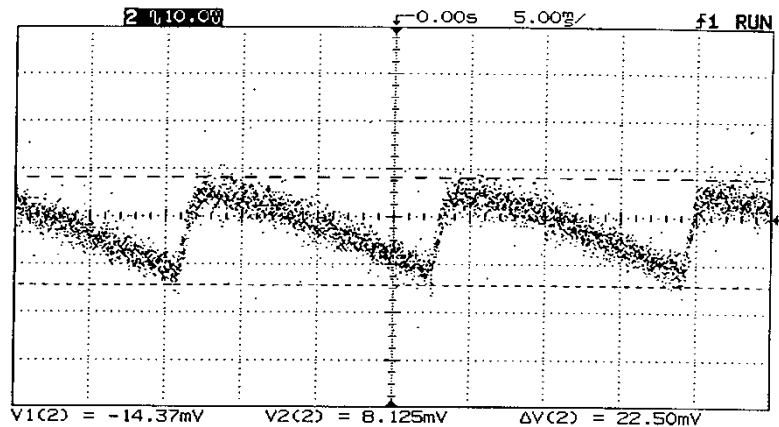

Fig. 8. AC Ripple Component
2. The peak-to-peak ripple voltage is the amount of variation from a constant DC value that is present in the load voltage. Ideally, in a good power supply this voltage should be zero. Measure the peak-to-peak ripple voltage of the circuit of Fig. 5. To accurately execute this procedure, bear in mind that the ripple voltage can be considered to be an AC signal. Therefore measure the ripple component using an AC coupling. Since the ripple component is small, you may need to adjust the volts/div on the oscilloscope (i.e. expand the scale). Your work should resemble Fig. 8 Obtain a screen shot of the resulting waveform.